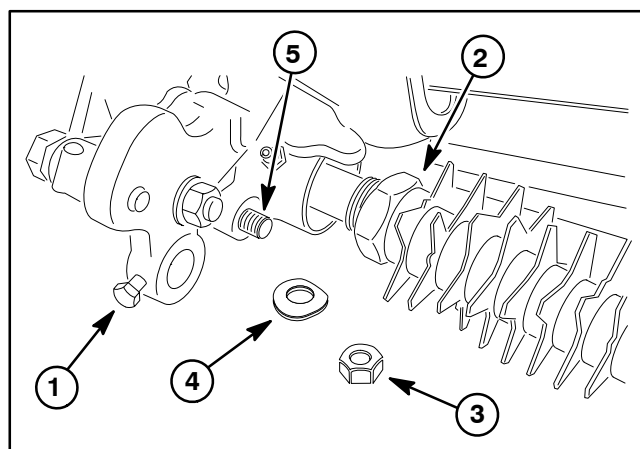

Figure 8
4. Remove groomer drive cover (item 2) and groomer drive belt (item 3) from groomer drive (see Groomer Belt Replacement in this section).
5. Loosen cap screws (item 10) that secure front roller shaft to groomer arms.
6. Remove lock nut (item 13) and spring washer (item 12) that secure RH groomer arm lift rod to RH drive plate assembly. Location of these items are shown in Figure 8.
7. Remove lock nut (item 21), special washer (item 16) and plow bolt (item 22) that secure RH groomer arm assembly to RH drive plate assembly. Do not change height-of-cut screw adjustment. Remove RH groomer arm assembly from cutting unit.